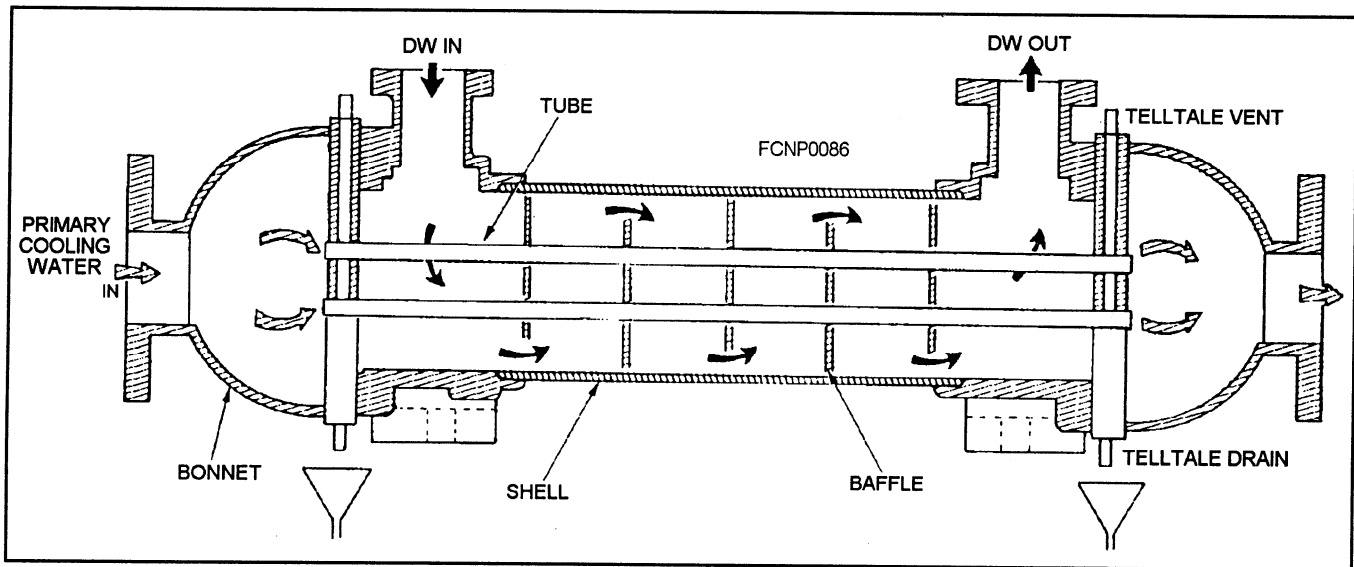
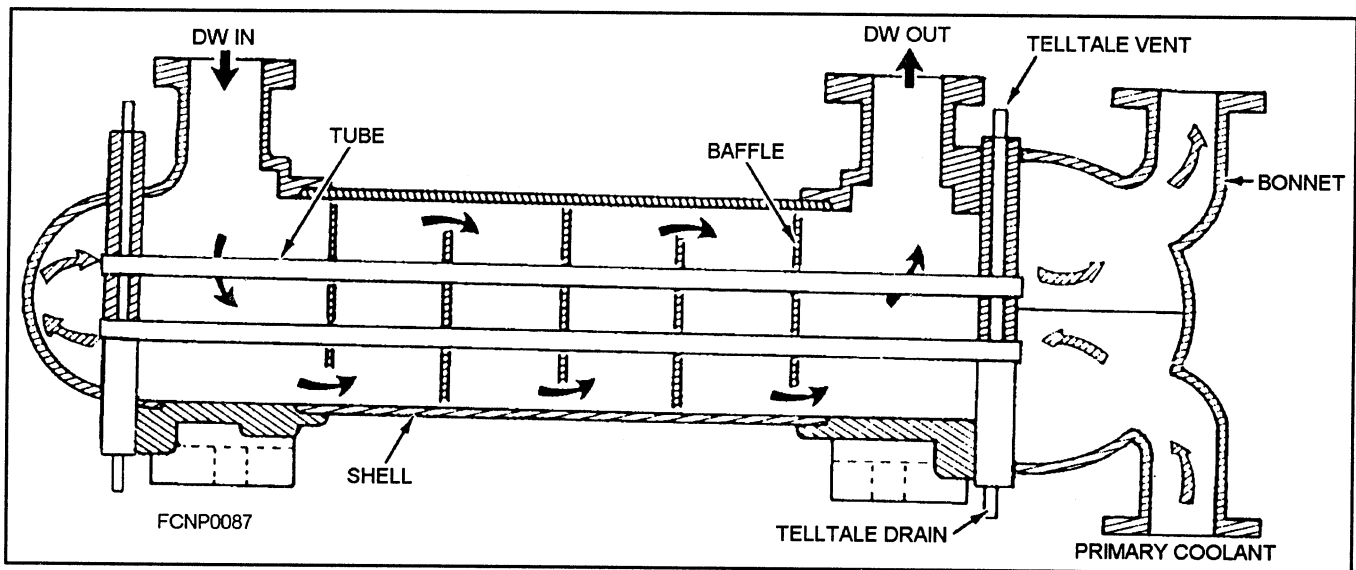

Figure 2-4.—Single-pass SW/DW heat exchanger with double-tube sheets.
Figure 2-5.—Two-pass SW/DW heat exchanger with single-tube sheets.
A single-pass counterflow heat exchanger is more efficient than the double-pass heat exchanger, because there is a more-uniform gradient of temperature difference between the two fluids. The primary coolant (SW/CW) flows through the tubes in the opposite direction to the flow of the secondary coolant (DW). Heat transfer occurs when the seawater flows through the tubes, extracting heat from the distilled water flowing through the shell side of the heat exchanger. The distilled water is then directed by baffles to flow back and forth across the tubes as it progresses along the inside of the shell from inlet to outlet. In figure 2-4, the preferred method of double-tube sheet construction is shown. Single-tube sheet construction is shown in figure 2-5.